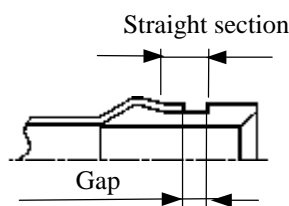

Figure 6
- A gap could remain between the tube and the tube stop of the sleeve when the sleeve is inserted into the tube. In such a case, insert the sleeve into the tube until the gap is smaller than a half of the straight section on the sleeve. (Figure 6)